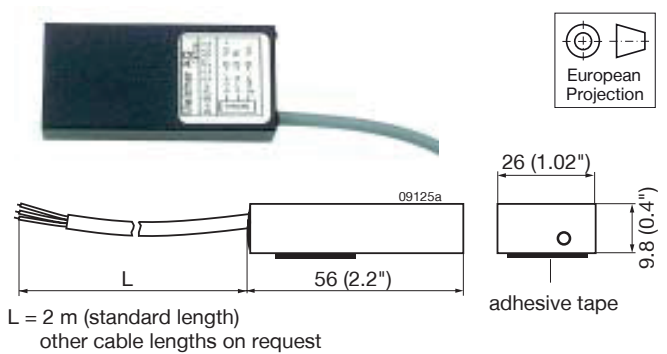

Fig. 30
- Different battery sensors S-KSMH... for using the converter as a battery charger. Different cell characteristics can be selected; see fig. 30, table 12, and *Battery Charging/ Temperature Sensors*.